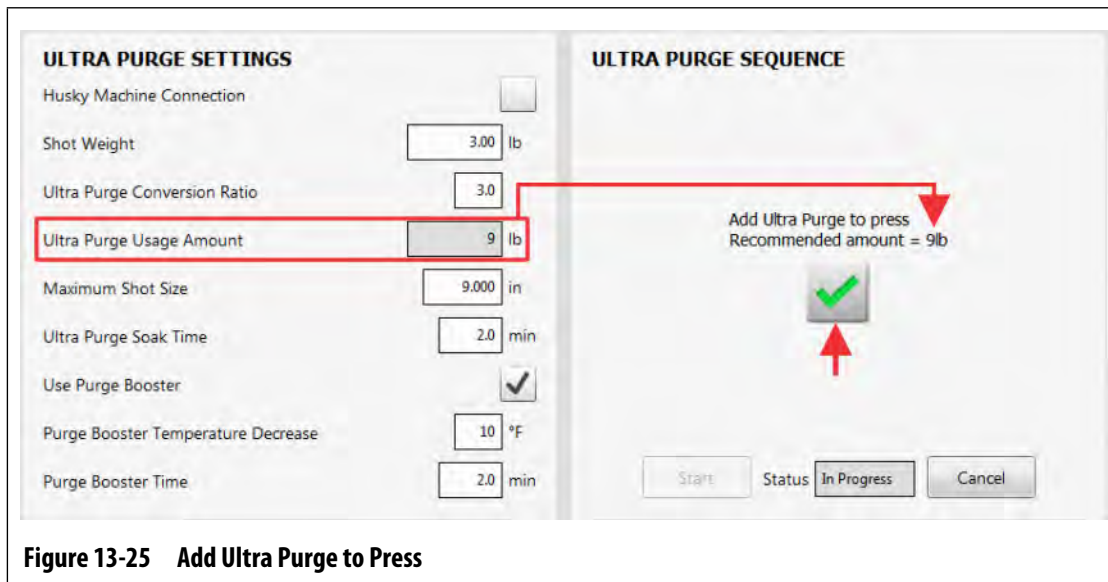

Figure 13-25 Add Ultra Purge to Press
8. Add the recommended amount of Ultra Purge compound to the IMM (refer to Figure 13-25).